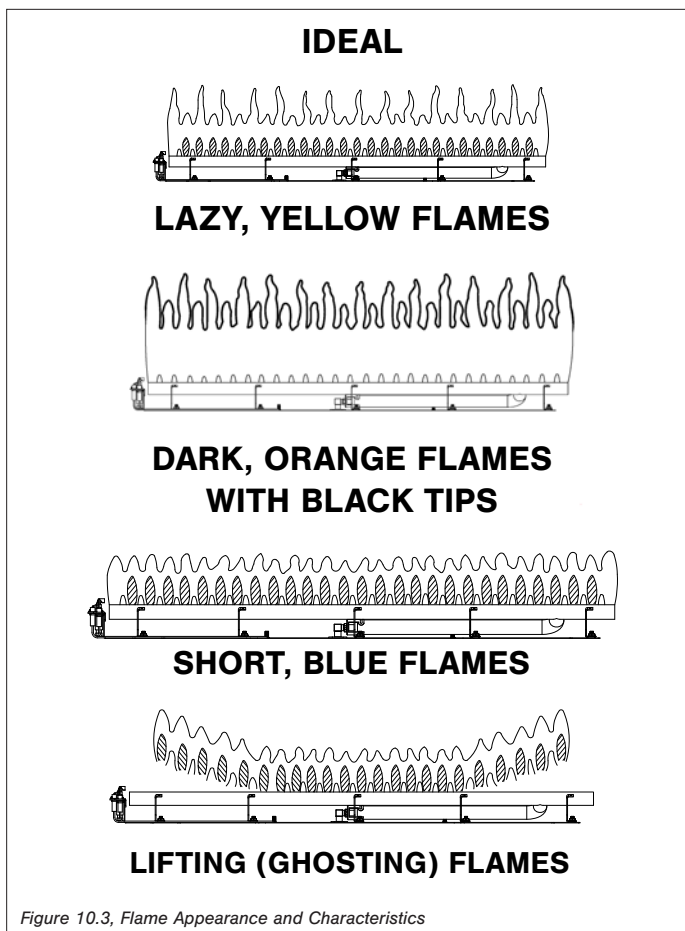

Figure 10.3, Flame Appearance and Characteristics
- Visually check pilot light and burner flame pattern when in operation. Flames should be steady, not lifting or floating. Refer to Figure 10.3, Flame Appearance and Characteristics on page 34.